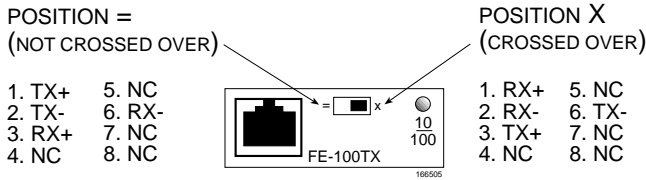

Figure 4-1 FE-100TX Crossover Switch
The BRIM-E100 with an FE-100TX installed is often used to provide a connection between the BRIM and a bridge, router, or switch. Usually, in this configuration, a “straight-through” cable is used and the crossover switch shown in Figure 4-1 is set to “not crossed over.”
Normally, when connecting devices to like devices, crossing over of the transmit and receive pairs must occur. Before connecting a segment to the FE-100TX, check each end of the segment to determine if the wires have been crossed over for the proper connection. If the wires do not cross over, use the switch on the FE-100TX to internally cross over the RJ45 port. Refer to Figure 4-1 to properly set the FE-100TX crossover switch.
1. Connect the twisted pair segment to the module by inserting the RJ45 connector on the twisted pair segment into the RJ45 port on the module. See Figure 4-1.